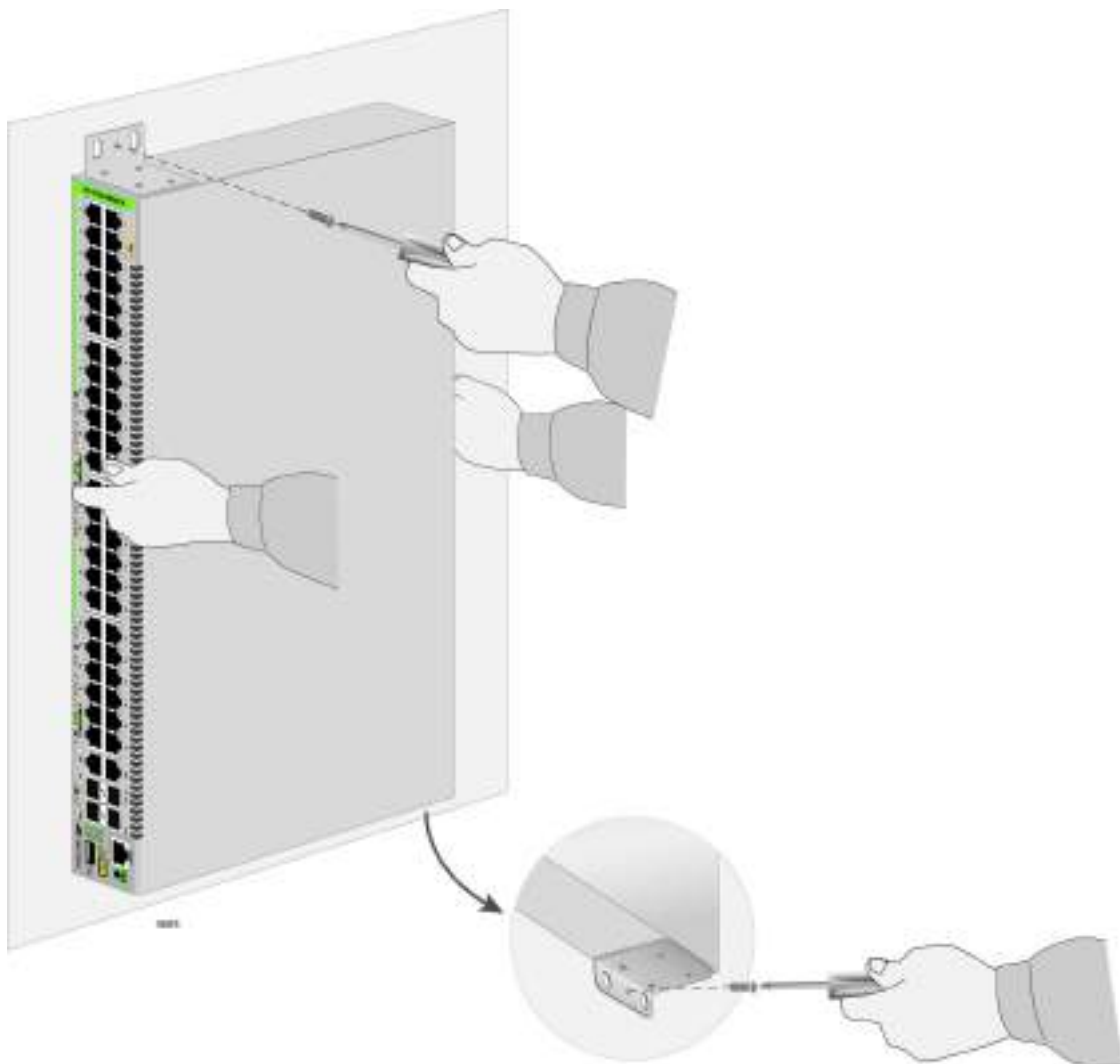

Figure 39. Installing the AT-GS924MPX, AT-GS948MX, or AT-GS948MPX Switch on a Wall
7. Have another person hold the switch at the selected wall location while you secure it to the wall with the two provided screws. See Figure 39.